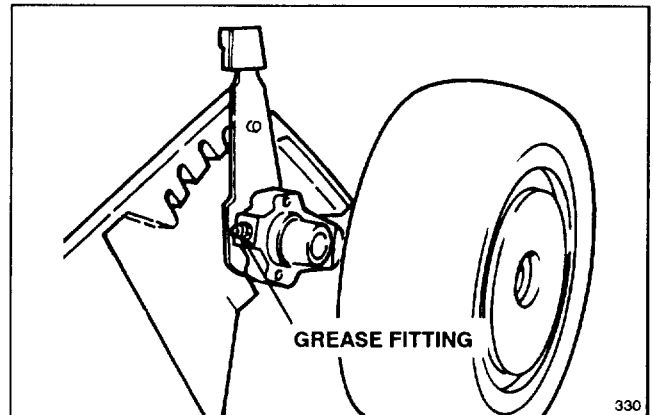

Figure 18
2. GREASE FRONT AXLE PIVOTS (Fig. 18) (self-propelled model only)—Adjust height-of-cut to 3-inch setting and loosen wheel bolt to get additional clearance around grease fitting. Wipe grease fittings with clean rag. Install grease gun onto fitting and gently apply 2 or 3 pumps of #2 Multi-Purpose Lithium Base Grease.